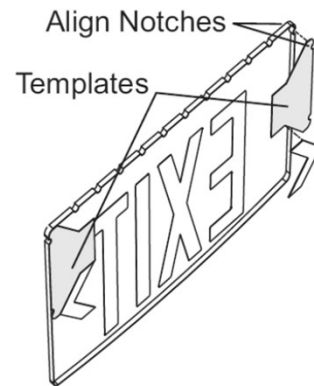

Figure 1
2. Prior to installation of the chevrons, make sure the sign is clean with no dust particles in the application area. To install the chevron(s) on a single face sign, temporarily adhere the alignment template's tacky surface to the back (printed) side of the Legend panel – *Figure 1*.
7. For signs which consist of two panels (**doubleface**) use the alignment template (*Figure 1*) to determine the location of the chevron(s) - *Figure 3*. Use the tool provided to remove any air bubbles - *Figure 4*.